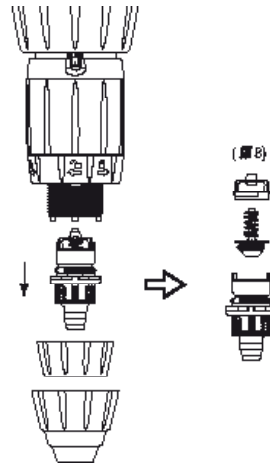

Fig. 17
- Re-assemble the components in the order and the plan position (Fig. 17).